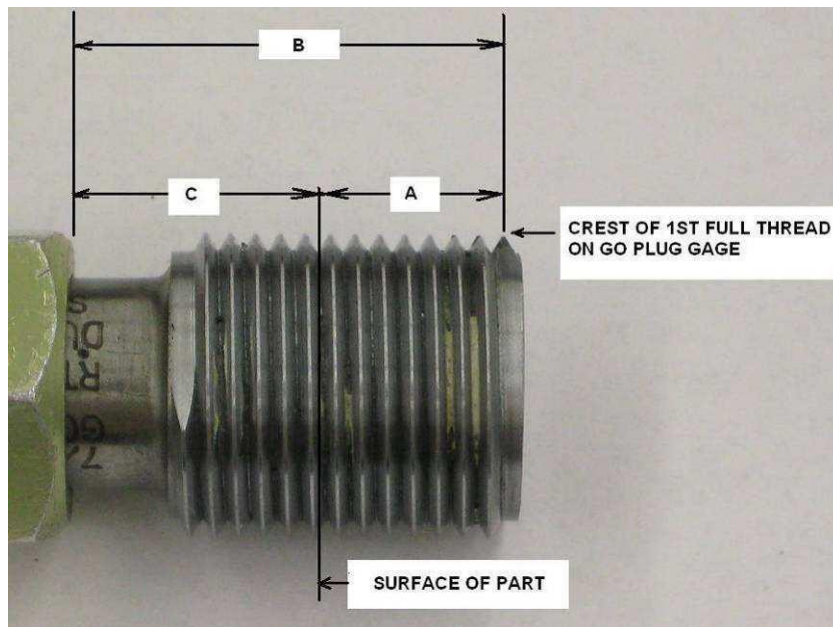

Figure 1 Alternative Method to Verify Thread Depth
1. Use the appropriate attribute thread gage as called out on the Weistec drawing. To determine thread depth, calculate the number of gage turns required by multiplying the thread pitch by the depth or length of thread, then subtracting one (1) turn for the lead of the gage.
3. Example: $\frac{1}{4}$ - 28 threads x .250 deep. See Figure 1.